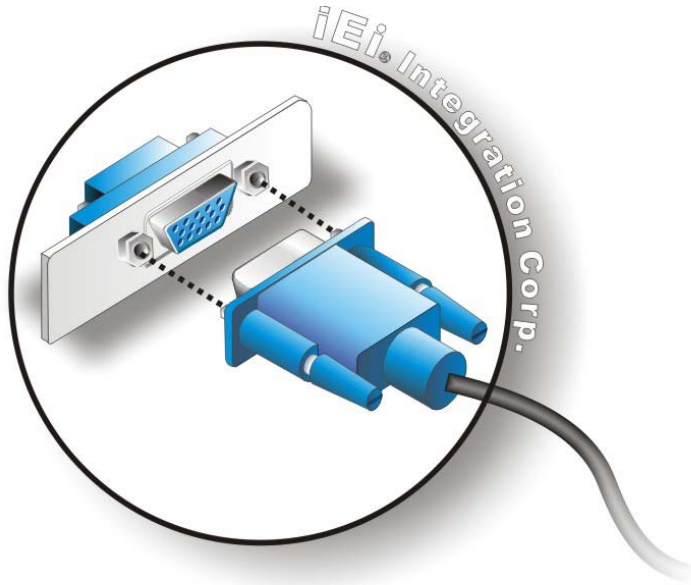

Figure 4-19: VGA Connection
- Step 3:** **Insert the VGA connector** Once the connectors are properly aligned with the insert the male connector from the VGA screen into the female connector on the IMBA-C2160. See **Figure 4-19**.